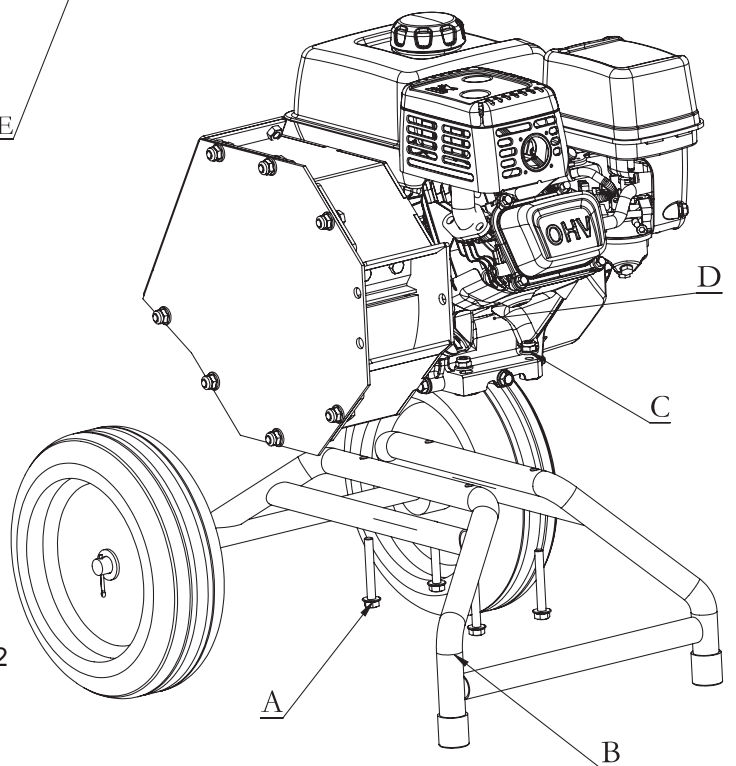

Figure 2
2. Fixed engine (See Figure 2)